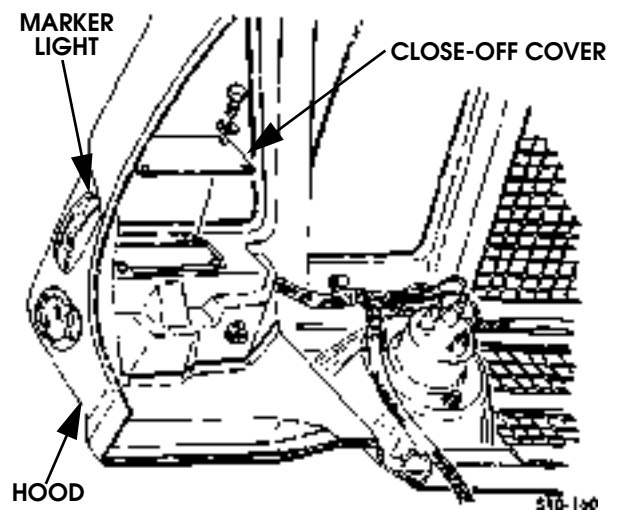

Figure 10-156: Close-Off Cover Location
1. Remove four screws, washers, and close-off cover from hood (Figure 10-156).
4. Secure close-off cover to hood with four washers and screws (Figure 10-156).